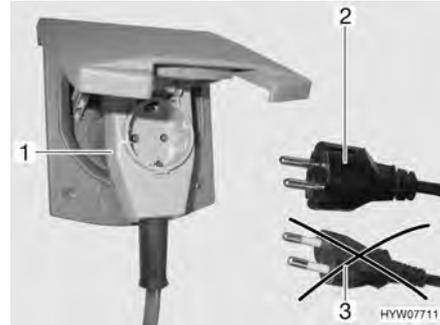

Fig. 110 Connecting an angled connector with socket
- ▶ When using a CEE 17 angled connector with rear socket (Fig. 110,1) only use a rubberised and sealed IP 44 socket with earth contact (Fig. 110,2). Do not use sockets without earth contact (Fig. 110,3). Danger of electrocution!